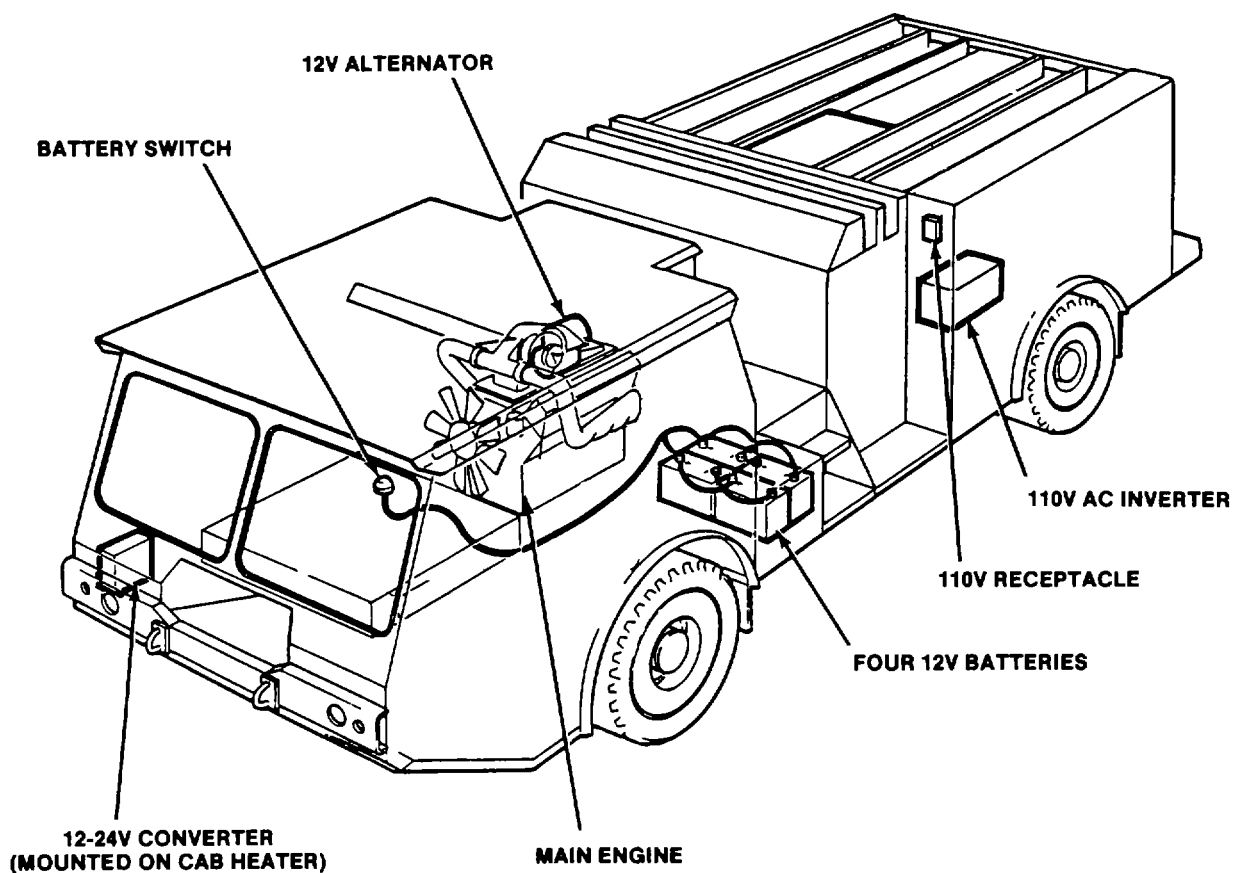

Figure 1-10. Electrical System Components
(1) The fire truck is equipped with a 12-volt dc main electrical system and a 110-volt ac auxiliary system. All components and subsystems used to operate and control the truck and firefighting equipment are powered from the 12-volt system. The 110-volt ac system is used to operate auxiliary power tools and accessories.
(2) The 110-volt ac system consists of a 12-Vdc to 110-Vac Inverter connected to the main engine alternator. Four receptacles are mounted on the left and right sides of the hose body, (see fig. 1-10). An additional two 110-Vac receptacles are available on the inverter itself.
(3) The 12-volt system consists of four maintenance-free batteries located in the battery compartment. The batteries are connected to a battery switch in the cab. To maintain the charge of the batteries, two 12-volt, 80-amp alternators, driven by the main engine, are provided. All of the major components and circuits are protected by automatic-reset-type circuit breakers. To provide 24-Vdc to auxiliary radio equipment the truck is equipped with a 12-to 24-Vdc converter. The converter is connected to the truck batteries via the battery switch.